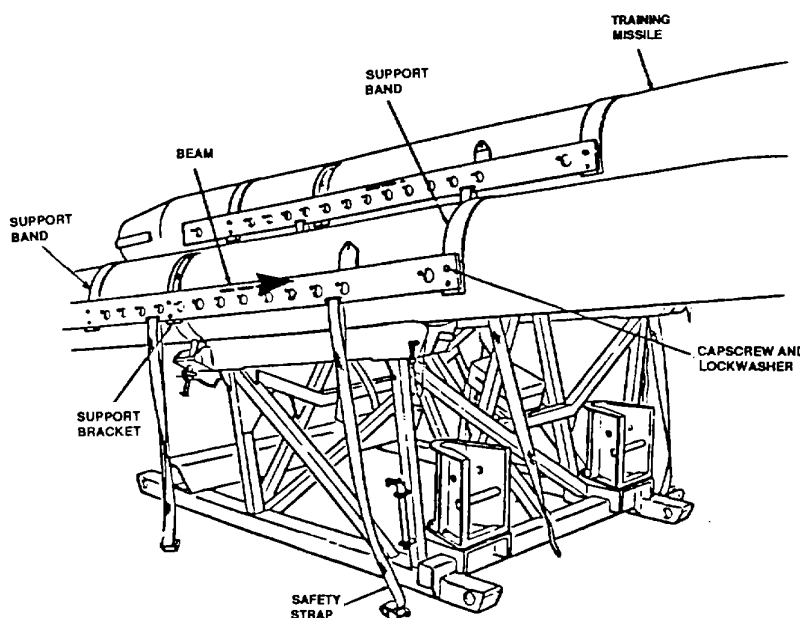

Figure 6-14. Training Missiles with Weight Supporting Components
(1) Remove missile tunnels and side covers.
(2) Remove six shoulder bolts, if installed; refer to TM 9-1410-530-14.
(3) Perform the following steps on each of the three training missiles:
(a) Install two support brackets (figure 6-14 and Item G) using four of the shoulder bolts removed in step (2) above. Do not tighten bolts.
(b) Place two support bands (Figure 6-3, item F and Figure 6-14) on each missile. Locate one strap about 55 inches forward of support bracket installed in steps (a) above, and the second band about 21 inches aft of the support bracket as shown in Figure 6-14.
(c) Thread two safety straps (Figure 6-3, item C) through slots in each beam as shown in figure 6-14.
Make sure arrow engraved on side of beams is pointing toward the front of the missile as shown in figure 6-14.